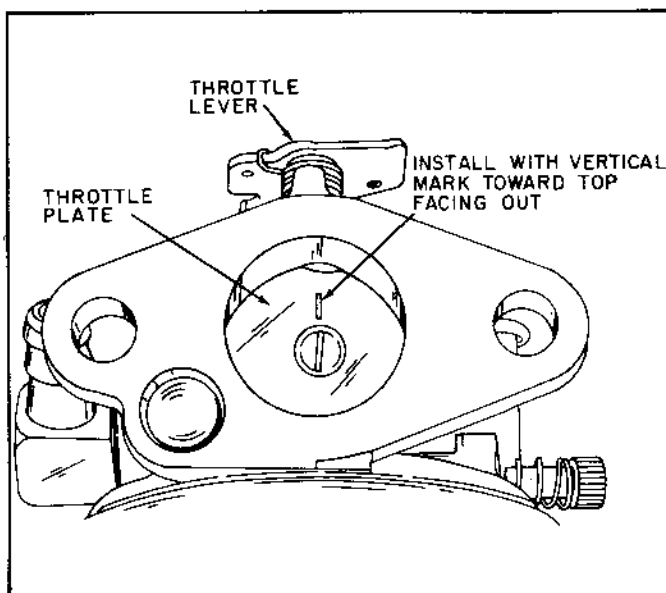

Figure 3-2. Throttle Assembly
- (1) Remove the screw in the center of the throttle plate and pull out the throttle shaft lever assembly (Fig. 3-2).
- (2) When reassembling, it is important that the lines on the throttle plate (Fig. 3-2) are facing out when in the closed position. Position throttle plates with two lines, at 12 and 3 o'clock. The throttle shaft must be held in tight to the bottom bearing to prevent the throttle plate from riding on the throttle bore of the body, causing excessive throttle plate wear and governor hunting.